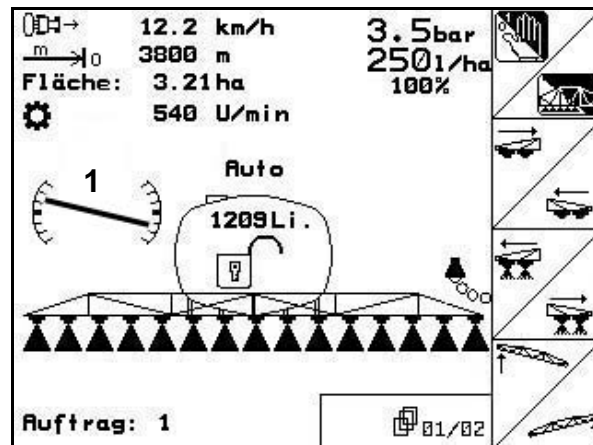

Fig. 126
- In the Menu operation the symbol tilt adjustment (Fig. 126/1) shows the selected sprayer boom tilting. In this case the left hand side sprayer boom is lifted.